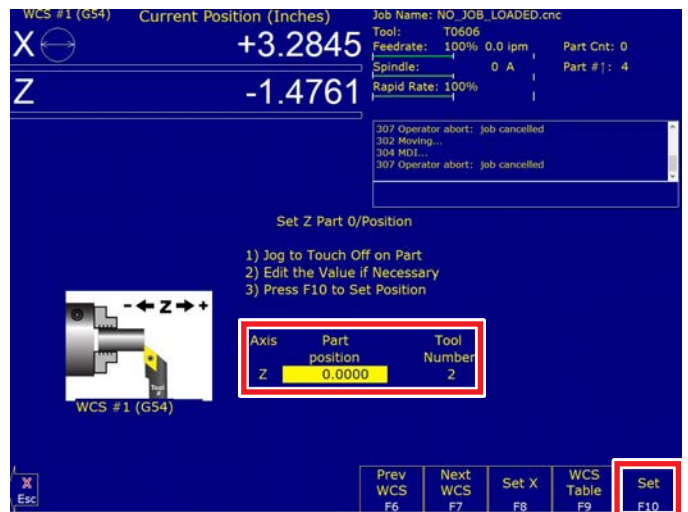

FIGURE 46
- Set the “Part Position” to (0.0000). Set the tool # to tool 2 (Ref Tool). Then click on Set F10 (see Figure 46).